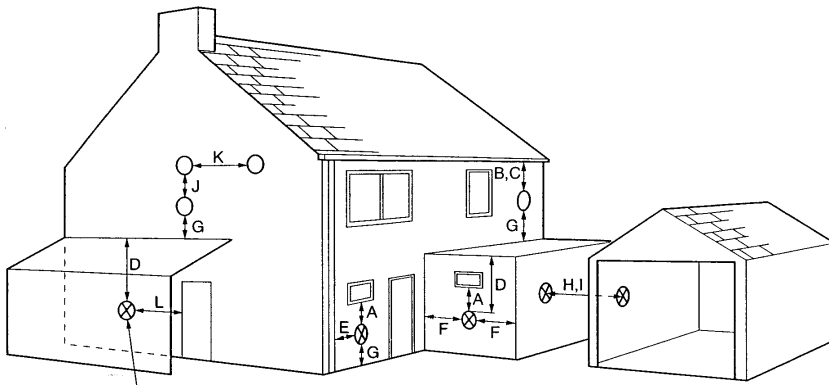

Fig. 4 ⊗ Likely flue positions requiring a flue terminal guard
2. Fig. 4 shows the positioning of the flue terminal relative to buildings and other structures.